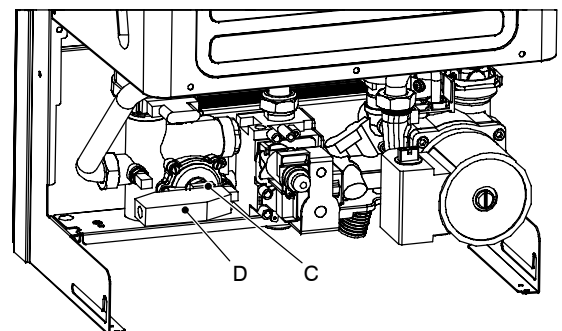

Fig. 54
- 2 Remove the fork C (Fig. 54).
- 2 Remove the fork C that holds the micro-switch housing D (Fig. 54).